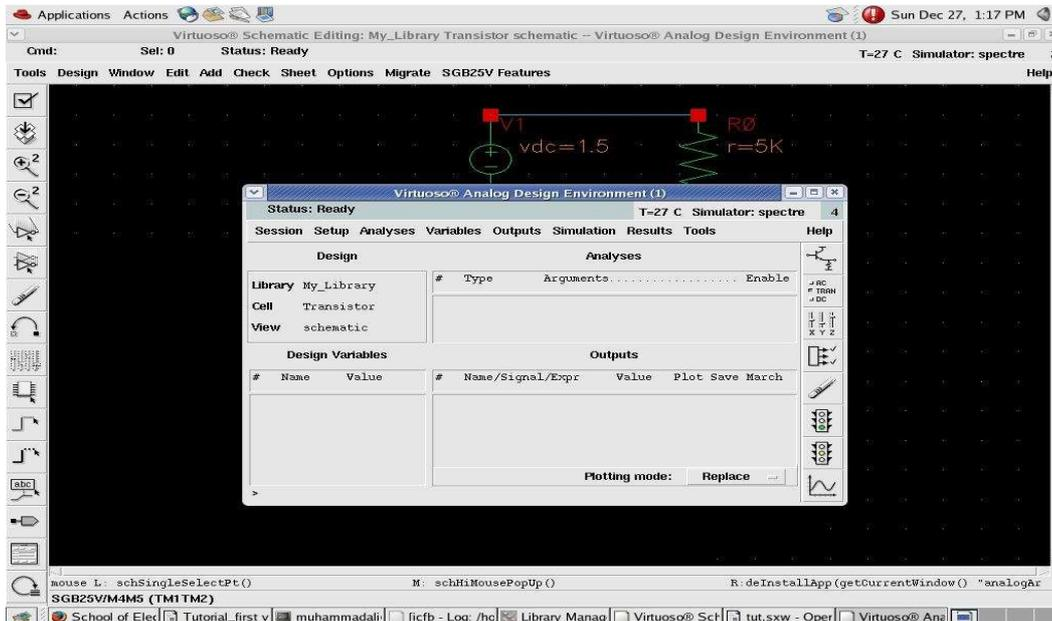

Fig.10: Analog Design Environment (ADE)
1. In the Virtuoso Schematic Editor, go to the '**Tools →Analog Design Environment**'. The ADE screen will appear as is shown in the Fig.10.